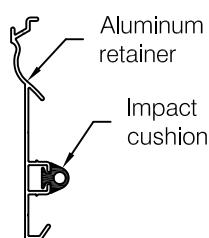

fig 9
- Step 8:** Cut flexible cushion to length slightly shorter than aluminum and slide into retainer, see **fig 9**.